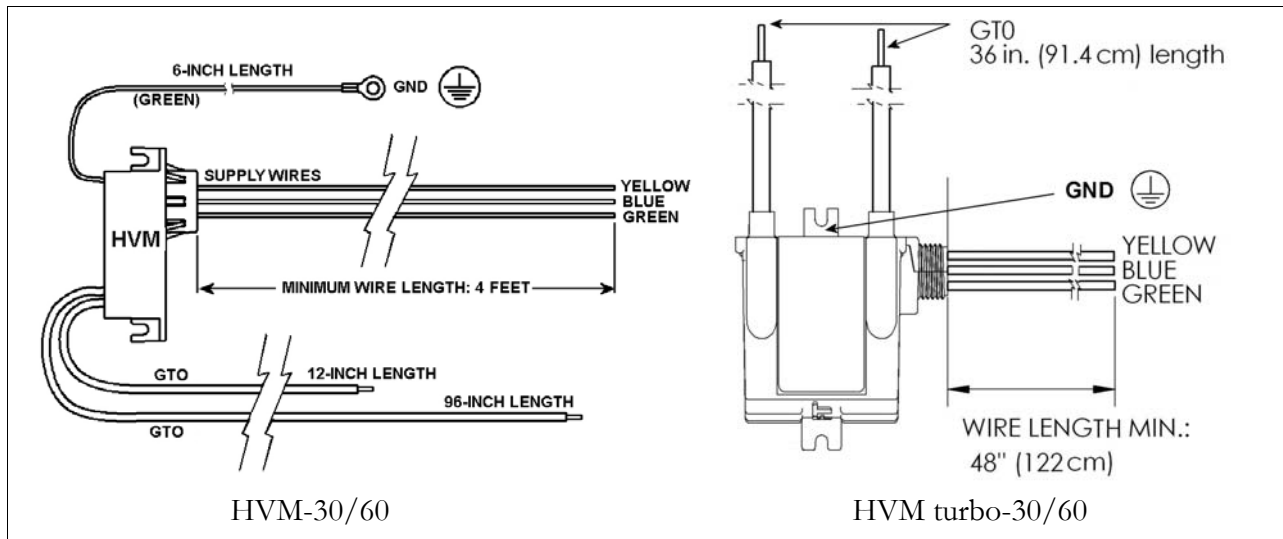

Figure 6 — Diagram for HVMS and attached wires for use with OCTOPUS system.
1. The HVM is equipped with two (2) GTO High-Voltage cables (Figure 6).
2. All GTO connections to the electrodes must be as short as possible. The GTO must be spaced at least one (1) inch from conductive or combustible materials.